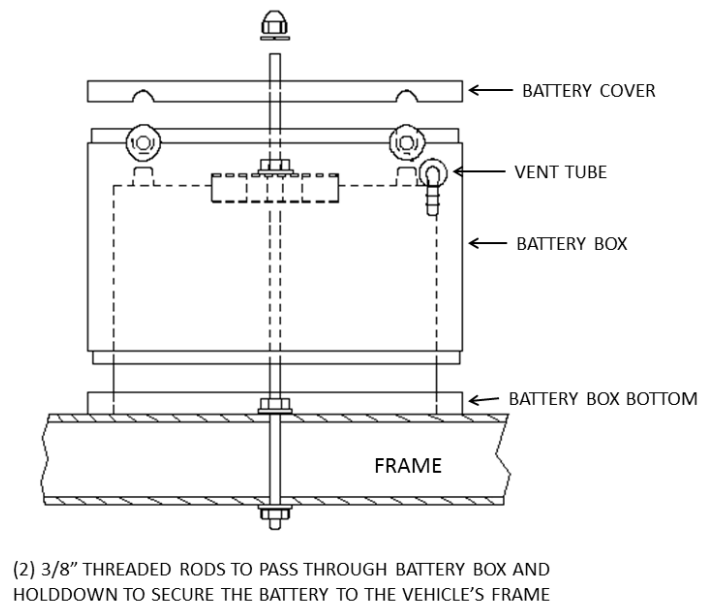

Figure 10
- G. Refer to Figure 10 (Example from Taylor Cable- Part number 48103)